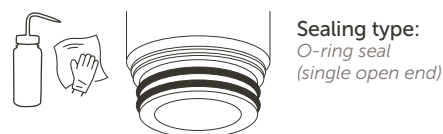

Figure 16.
7. Wet the O-rings with DI water or IPA to ease insertion of the cartridges into the housing cartridge slot, Figure 16.